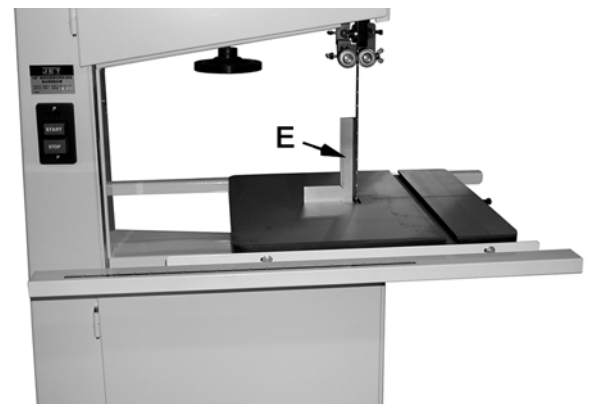

Figure 16
2. Use a *square* (E, Fig. 16) placed on the table and against the blade to see if the table is 90 degrees to the blade.